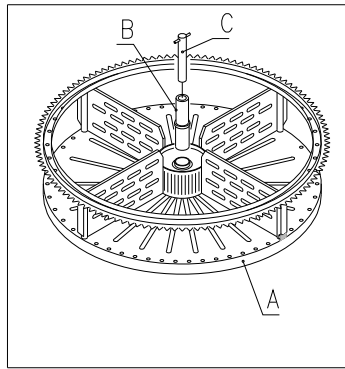

FIG. 8
- The last drum on top pos. A fig. 8 is equipped with a bush pos. B FIG. 8 and a pin C FIG. 8 to secure the whole column. When reassembling the column it is important to correctly position part C and lastly place the drum pos. A as the final one of the ten.